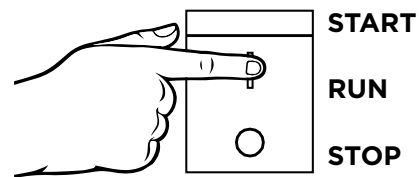

Figure 10 - Engine Control Switch - START
8. **Electric Start:** Push and hold the engine control switch in the **START** position until the engine starts. Once the engine starts, release the engine control switch; the switch will automatically move into the **RUN** position (see Figure 10 below).